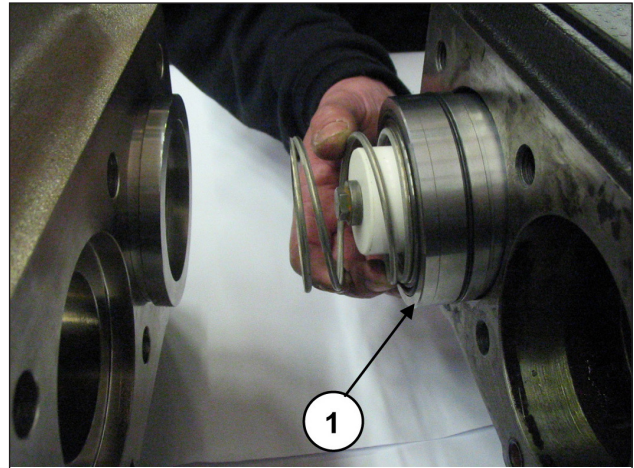

Fig. 154
Turning the shaft, have the piston guide move forward so that the buffer, moving ahead, can expel the seal support, the spring and the entire piston unit (pos. ①, Fig. 154).